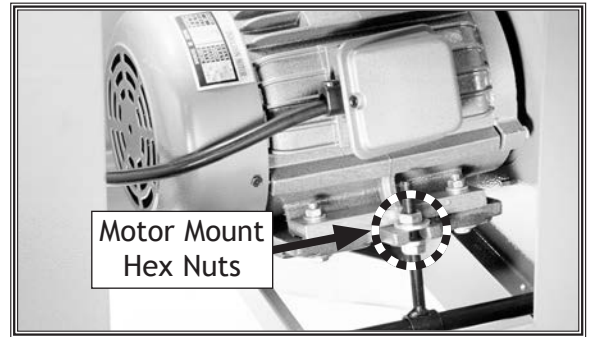

Figure 43. Example of front cabinet cover removed to access motor.
3. Remove front cabinet cover to access motor, as shown in **Figure 43**.
5. To adjust V-belt tension, loosen top motor mount hex nut (see **Figure 43**), then adjust bottom hex nut to raise or lower motor.